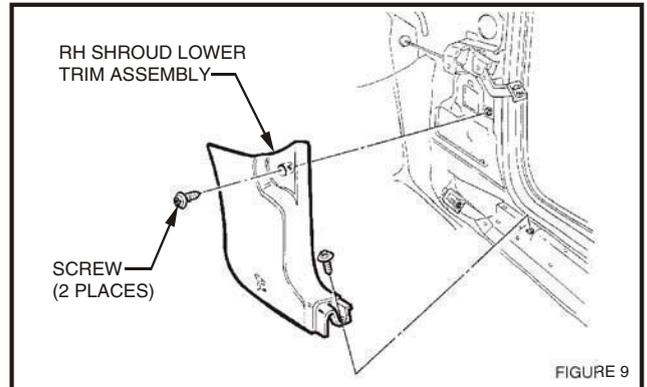

FIGURE 9
- 14. Remove the upper retaining screw, from behind hood release lever, and remove shroud lower trim assembly, refer fig.9.